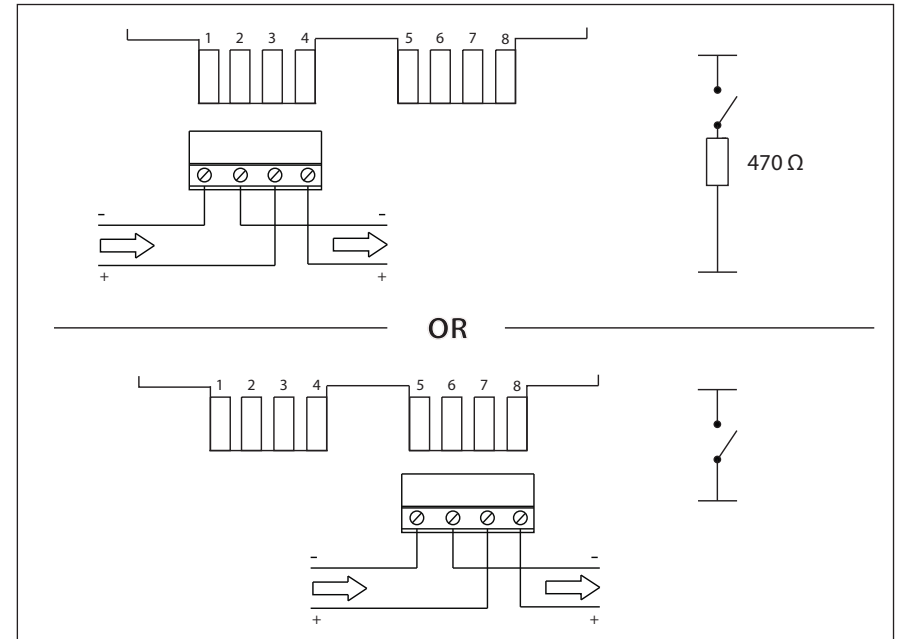

Fig 2 Terminal block connections
2. Run the cables into the backbox and connect them to the terminal block as shown in **Fig 2**. Ensure that functional earth/screen continuity is maintained.
- Unlock the small front cover by inserting the forked key and pushing it home. Remove key, slide the cover down and remove the deformable element. Connect the terminal block as shown in Fig. 2, secure the call point to the backbox and refit the deformable element as required. Finally, replace the front cover in the reverse order in which it was removed and push it up until it locks.